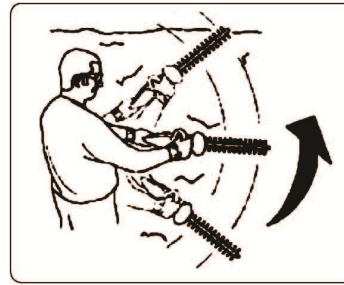

FIG. 39
**SIDE-TRIMMING HEDGES**—Begin at the bottom and sweep up. (Fig. 39)